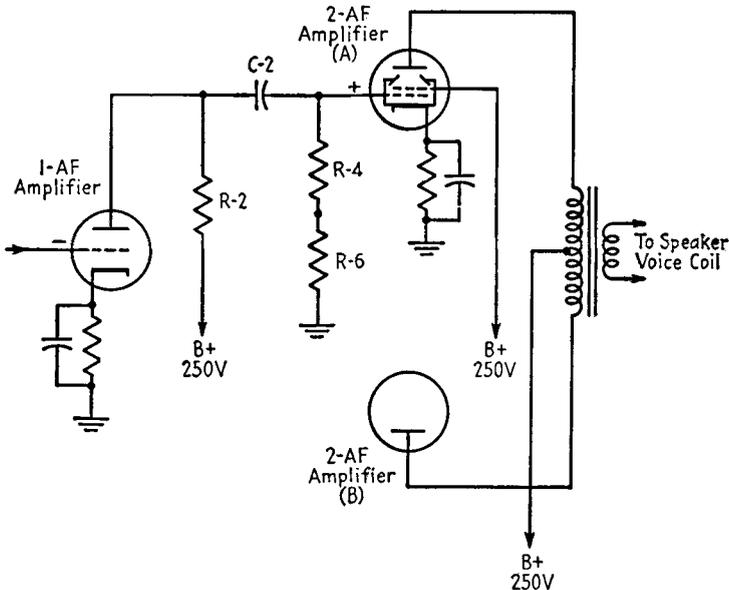

FIG. 22-10. Obtaining a positive signal on one push-pull tube grid from a negative signal on the first AF amplifier grid.
Let us examine the development of such a circuit. Figure 22-10 shows one of the push-pull tubes coupled by normal resistance-capacitance coupling to the first AF amplifier. Note that a negative signal fed to the first AF grid produces a decrease in current through  $R-2$ . This results in a lowered voltage drop across the resistor and, as a result, a rise in positive voltage on the plate. This rise in positive voltage feeds a positive pulse through condenser  $C-2$  to the control grid of the second AF (A) tube. The first AF tube has thus shifted the signal phase by 180 deg. The grid-leak resistor for the second AF (A) tube is shown as two separate resistors,  $R-4$  and  $R-6$ .